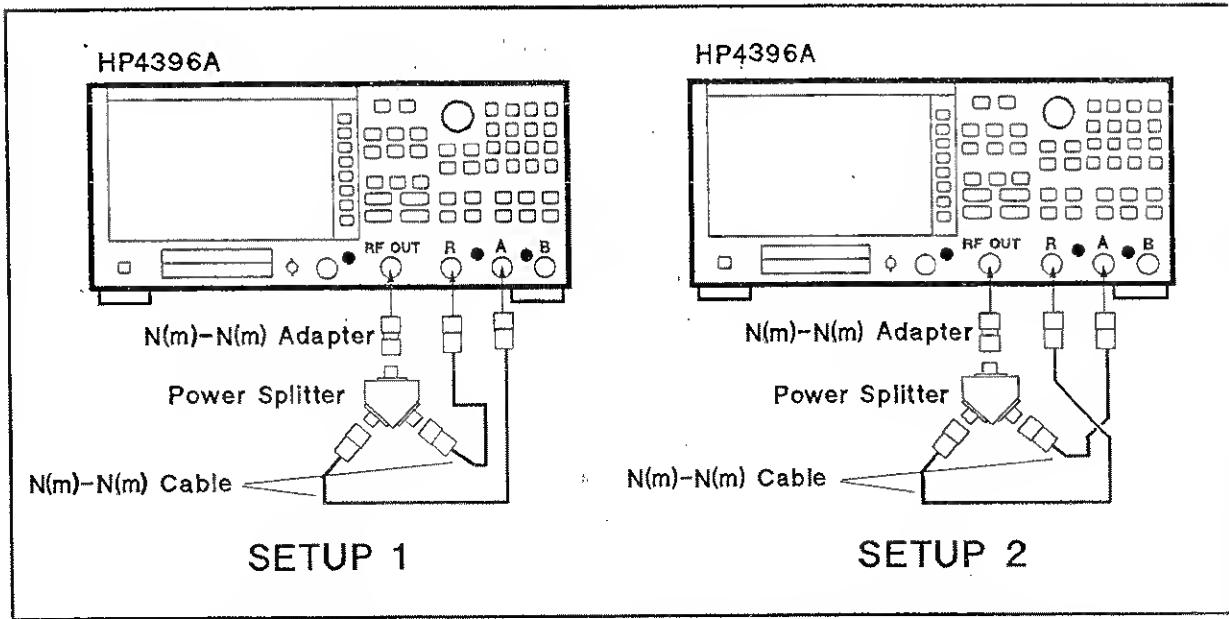

Figure 2-16. A/R Magnitude Ratio/Phase Frequency Response Test Setup
- Connect the test equipment as shown in setup 1 of Figure 2-16.
- e. Reverse the cable connections of the HP 4396A A and R inputs as shown in setup 2 of Figure 2-16.
- o. Connect the test equipment as shown in setup 1 of Figure 2-16.
s. Reverse the cable connections of the HP 4396A A and R inputs as shown in setup 2 of Figure 2-16.